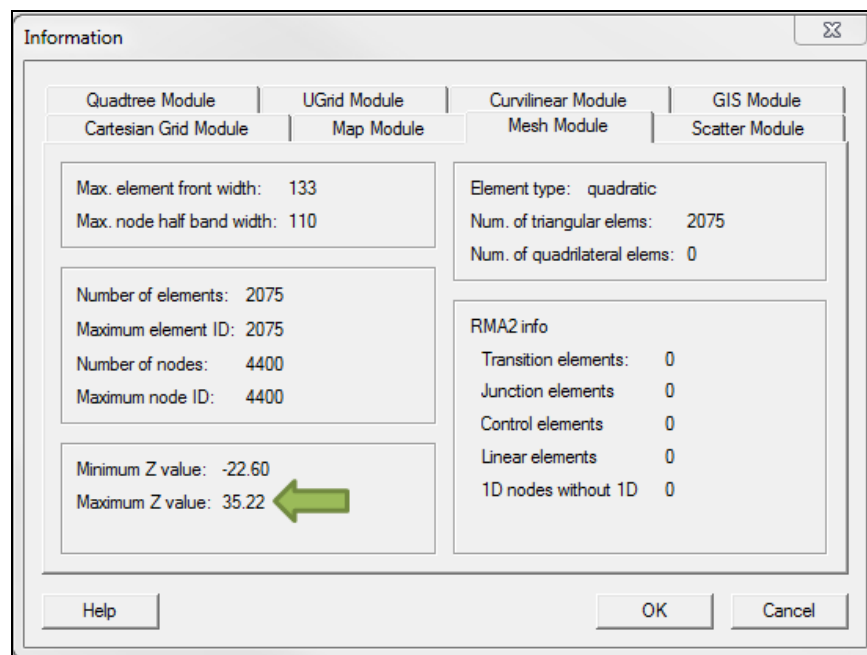

Figure 6 Information dialog for the mesh
1. Select **File | Get Info...** to open the *Information* dialog (Figure 6).